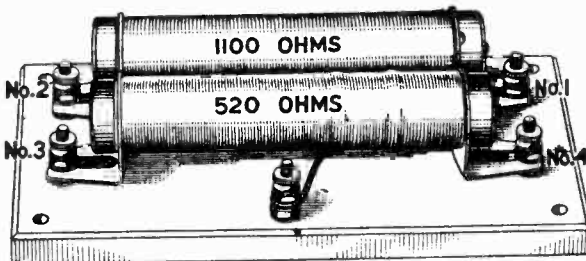
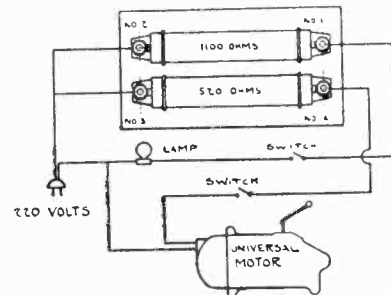

Fig. 3—220 Volt Resistor Unit for Operation with Compartment Lamp
Fig. 4—Circuit Diagram for Resistor Unit Shown in Fig. 3
3. Operation of Universal Motor on 220 Volts with Lamp—The resistor, part 16228, shown in Fig. 3, is designed for use on 220 volt circuits in which a compartment lamp is used with the instrument. Connection should be made between terminals No. 1 and No. 2 for the lamp, and between No. 3 and No. 4 for the motor. The circuit diagram for these connections is shown in Fig. 4.